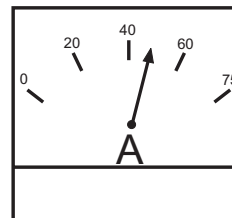

Figure 35. Ammeter (Load)
13. Observe at the generator's ammeter (Figure 35) and verify that it reads the anticipated amount of current with respect to the load. The ammeter will only display a current reading if the load is in use.